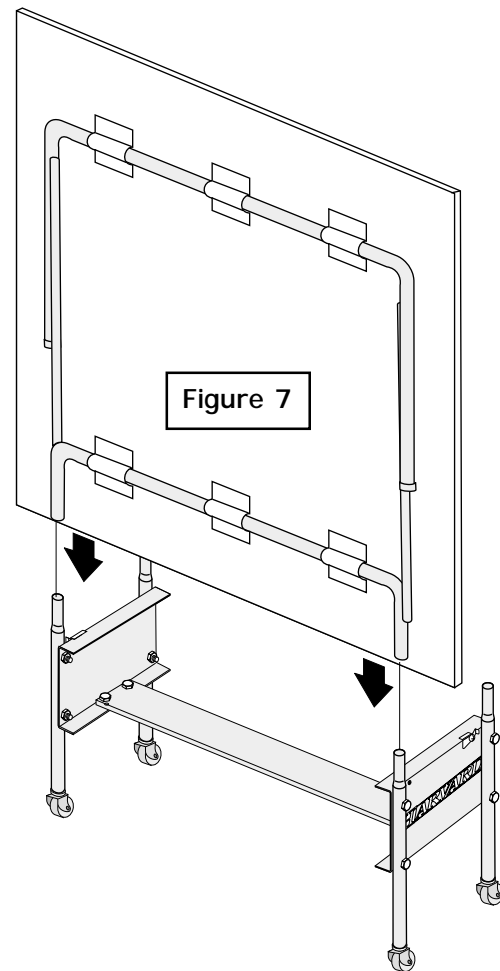

Figure 7
14. With two adults, attach table top (#1) to table base, as shown in Figure 7. With at least one adult on each side of table top, lift top and align ends of "U"-support tube with top of upright tubes. Slide tubes together.